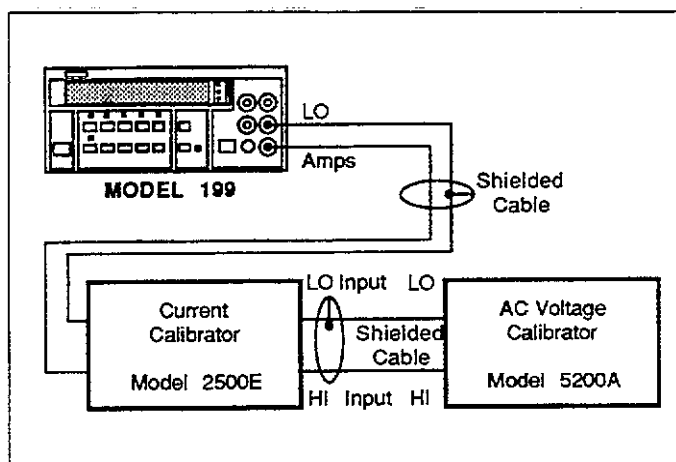

Figure 6-9. AC Current Calibration Configuration
2. Connect the AC current calibrator to the instrument as shown in Figure 6-9.